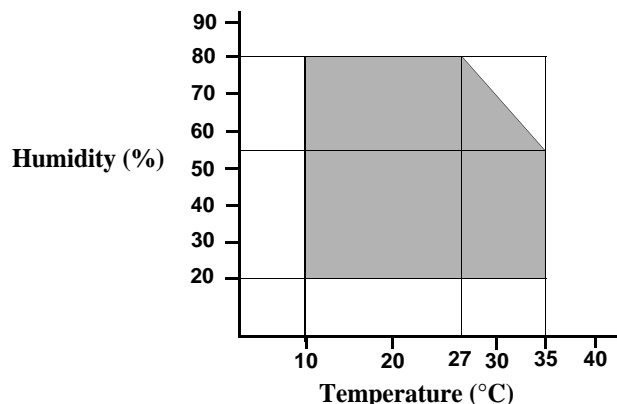

Figure 1-6. Temperature/Humidity Range
*2: Refer to Figure 1-6 "Temperature/Humidity Range" for condition.